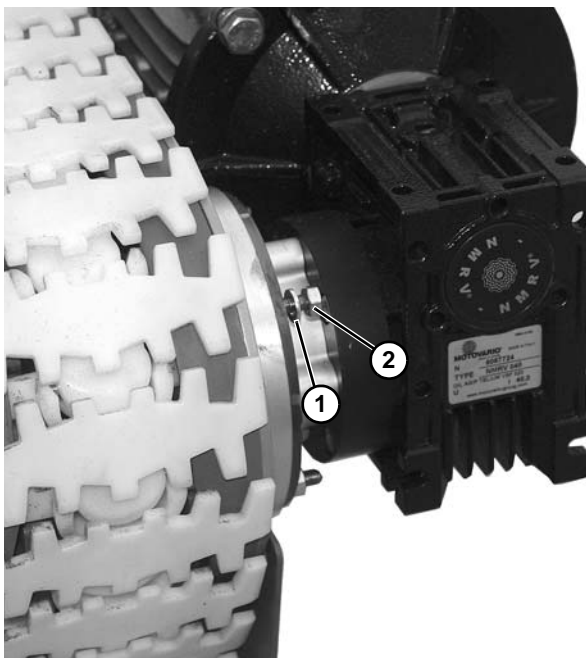

Figure 50
3. Install four washers (Figure 50, item 1) and nuts (Figure 50, item 2) to secure motor to conveyor.